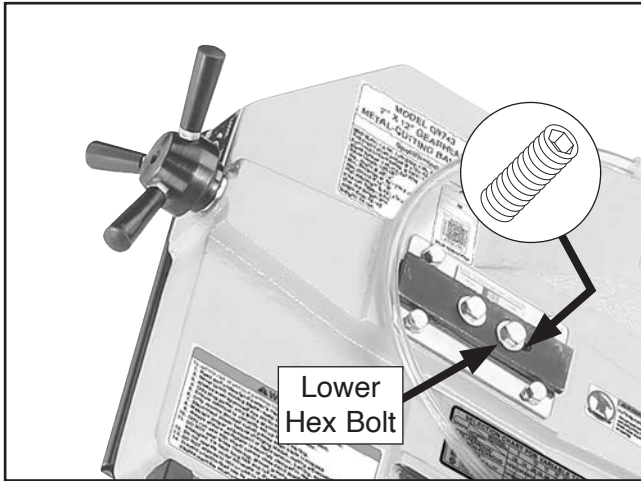

Figure 72. Location of blade tracking controls.
- Loosen, but do not remove, lower hex bolt in blade wheel tilting mechanism (see **Figure 72**).
- Adjust tracking set screw (see **Figure 72**), then tighten hex bolt loosened in **Step 8**.